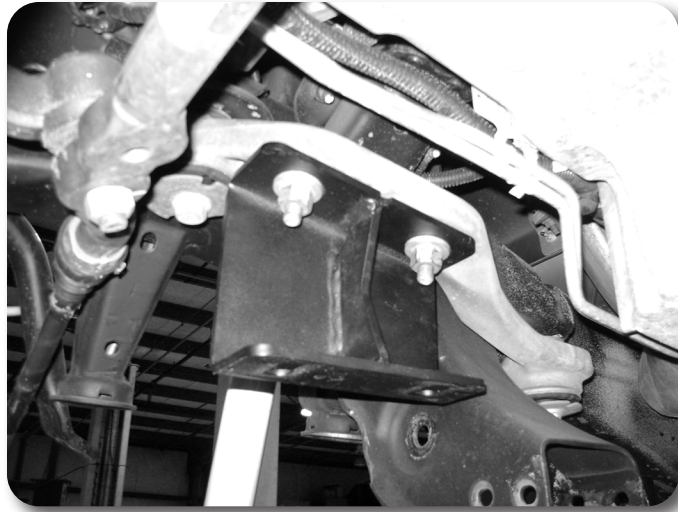

Figure 29
40. Locate the new passenger's side differential bracket. Bracket has a single center gusset. Install the bracket on the existing studs on the passenger's side factory bracket. Fasten with the original nuts and washers. When installed the open side of the bracket will face inward and the bracket will taper down as it goes to the rear Figure 29. Torque nuts to 74 ft-lbs.